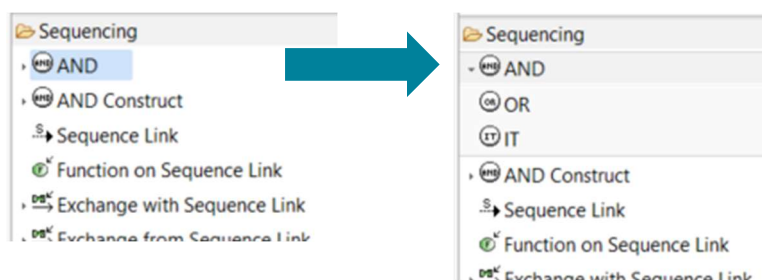

Figure 5 Control Nodes Palette
- To insert control nodes, first click on the small triangle before AND under Sequencing to show AND, OR and IT nodes as shown in Figure 5.